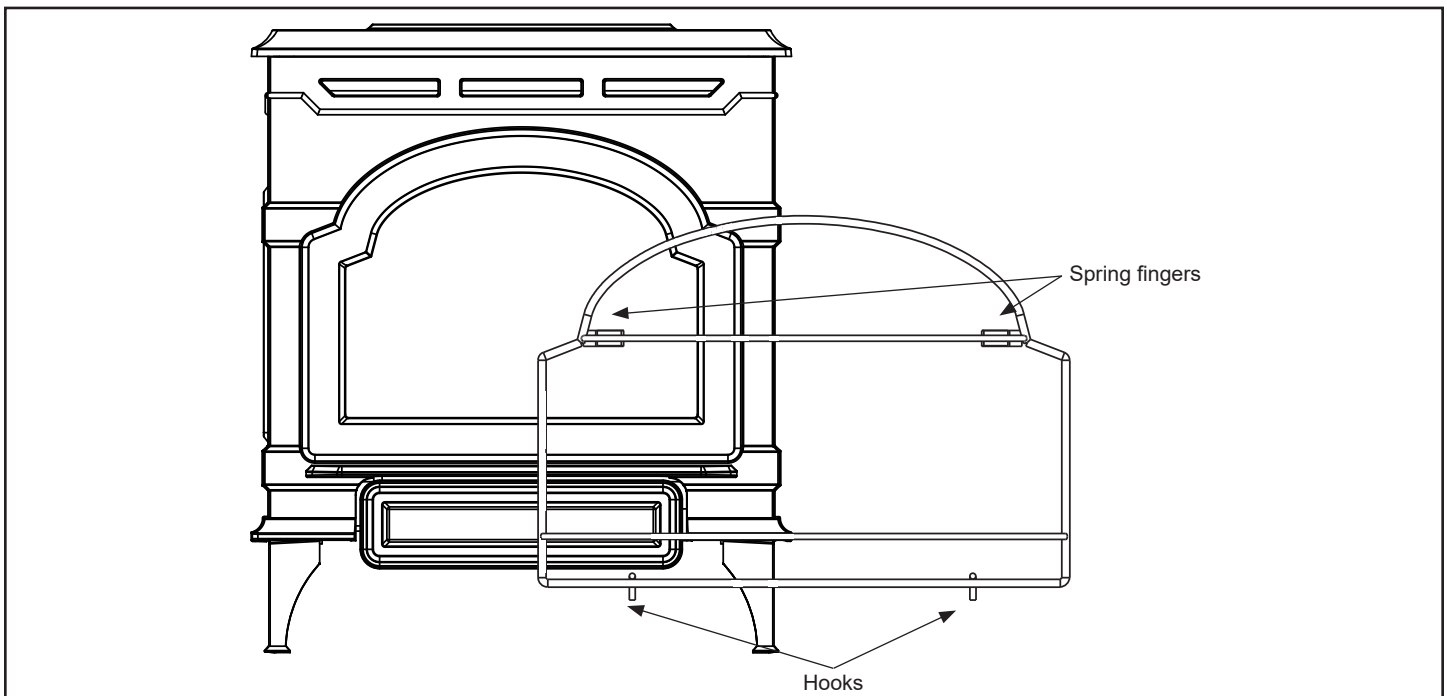

Figure 45 - Safety Barrier Installation
2. Place the two bottom hooks over the bottom edge of the stove opening. *Figure 45*